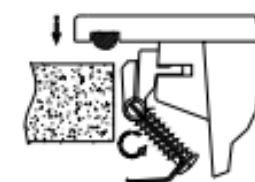

Fig.2
7. Unscrew the fixing clip screws fully then rotate the hook section of the fixing clips away from the sink edge (fig. 2), to allow the sink to pass through the cut-out in the worktop.